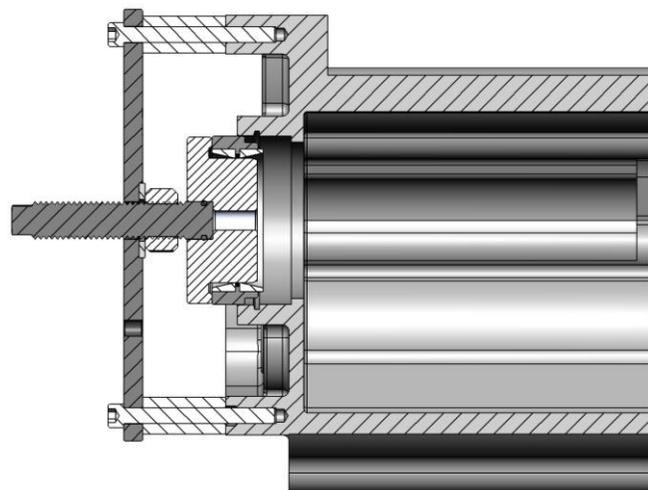

FIGURE 15 | TAPERED BEARING ADAPTER WITH TOOLE-GB APPLYING FORCE FROM LEFT TO RIGHT
2. Before the cap screws (10) are threaded into the case, slide the tapered bearing adapter onto the cup (4). Snug the cap screws (10) then loosen one half turn. Snug the threaded shaft (2) by turning the nut (5) by hand until the tapered bearing adapter registers squarely with the transmission case bore. With the adapter registered squarely with the case, loosen the threaded shaft (2) just enough to allow the cap screws (10) to be tightened; see figure 15.